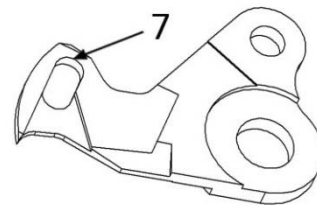

Fig. 38
- B. Set the position of fixed knife (1) so that the blade is in distance of 1,5-2mm from the edge of the insert of needle plate (2).
- C. Loosen the screw (4) and set the position of moving knife (3) so that the distance of blade 7 is 1-2mm from the blade of fixed knife, Fig. 38.
- E. Set the lock (5) of rotary hook so that the cam is in the position of the axe of the hole of insert (2) of needle plate. Final setting of the lock (5) of rotary hook is done after installation of trimming mechanism.